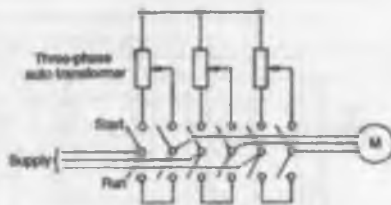

Figure 23.11
With this method, an auto transformer is used to reduce the stator voltage, E_1 , and thus the starting current (see Equation (7)). However, the starting torque is seriously reduced (see Equation (12)), so the voltage is reduced only sufficiently to give the required reduction of the starting current. A typical arrangement is shown in Fig. 23.11. A double-throw switch